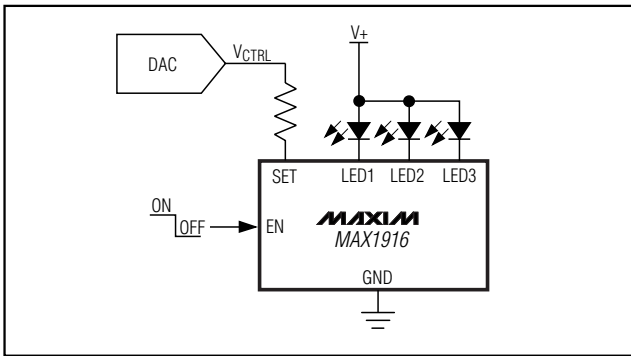

Figure 3. Brightness Adjust Using DAC
- 2) Brightness Adjustment Using a DAC (Figure 3). A DAC is used as V_{CTRL} such that the LED brightness may be dynamically adjusted to eliminate factory calibration. A battery (single Li+ or three NiMH cells) or a regulated power source drives the LEDs.